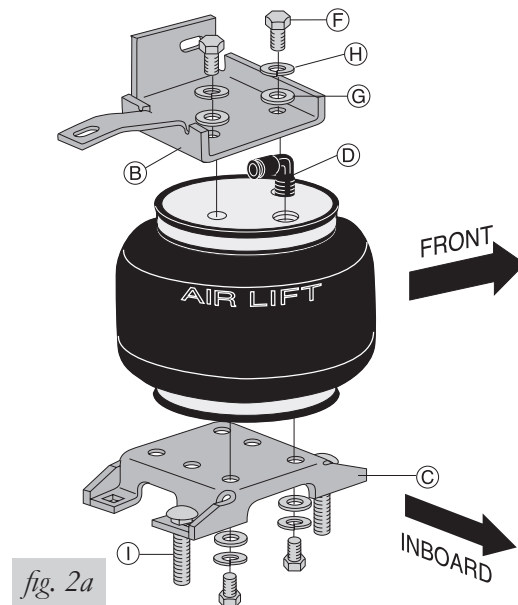

fig. 2a
3. Insert two carriage bolts in the lower, inboard holes of the lower bracket before attaching the air spring (Fig. 2a).